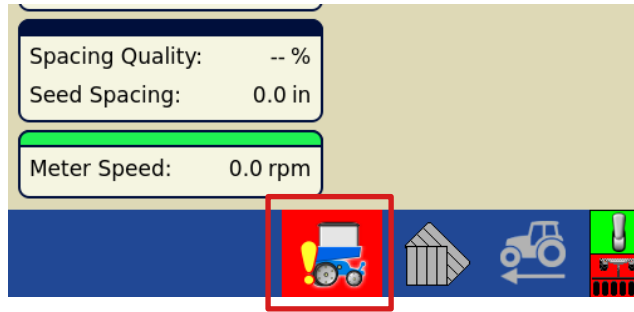

Figure 3 – Downforce control status indication & reactivation
- **ENHANCED:** Ability to reactivate SureForce from the map screen after a low power event (SureForce®) (Figure 3)